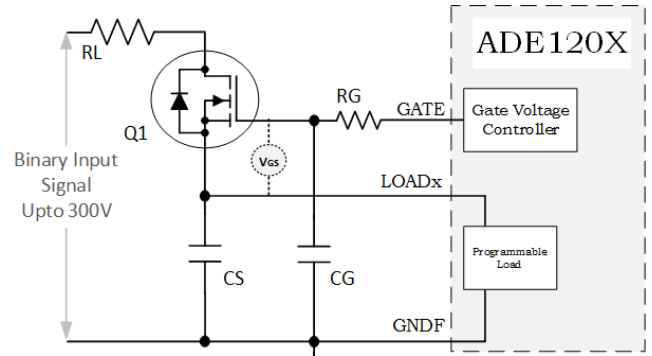

Figure 23. MOSFET Gate Control
The GATE pin is used to drive an external high voltage Enhancement Mode MOSFET (Q1). After power up, the GATE pin is biased at a voltage $V_{GATENOM}$ to allow Q1 to conduct while protecting the load pin LOADx as shown in Figure 23. An external gate current limiting resistor (RG) 10 Ω and gate capacitor (CG) 0.1 μ F are required. The limits of the GATE pin are stated in Table 1.